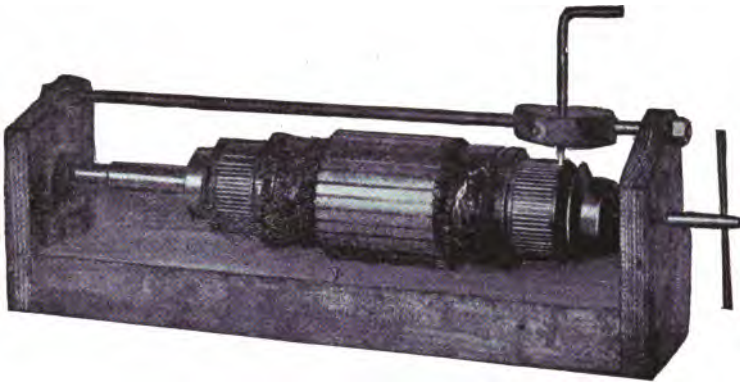

Fig. 348. Jig for Holding Armature and Tooling Commutator
*Method of Tooling Commutator.* A different method of undercutting the mica of the commutator is recommended from that already described in connection with the Delco system. This is illustrated in Fig. 348. The armature is removed from the generator and mounted in a simple jig, as shown. The jig is made of 1-inch oak, while ordinary machine screws held in place by lock nuts are utilized as the centers. The bar, or guide, on which the cutter operates, can be made of  $\frac{1}{2}$ -inch rolled-steel rod, while the cutter itself should be made of  $\frac{1}{4}$ -inch drill rod. The point of this cutter is ground sharp, like the parting tool used on a lathe or planer, to the thickness of the mica between the commutator bars. The cutter is moved backward and